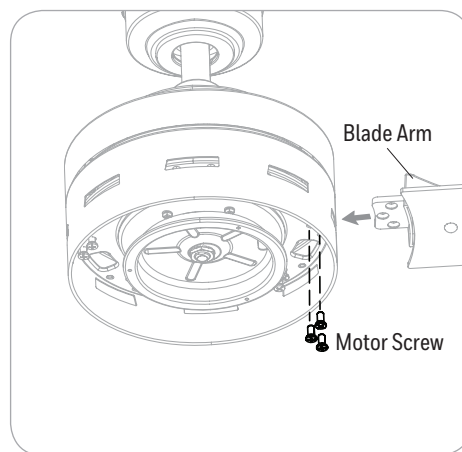

Figure 5.5
- Insert blade arm (K) through slots in the side of the motor assembly. Align the holes of one blade arm with two motor screw holes in underside of the motor assembly. Secure with two motor screws. Repeat this step for the remaining blade arms (Figure 5.5).